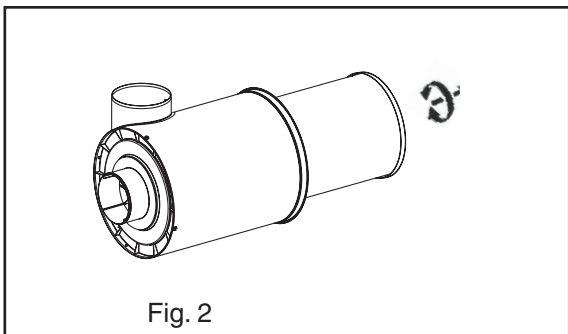

Fig. 2
2. Remove outer element with a light turning movement (Fig. 2).